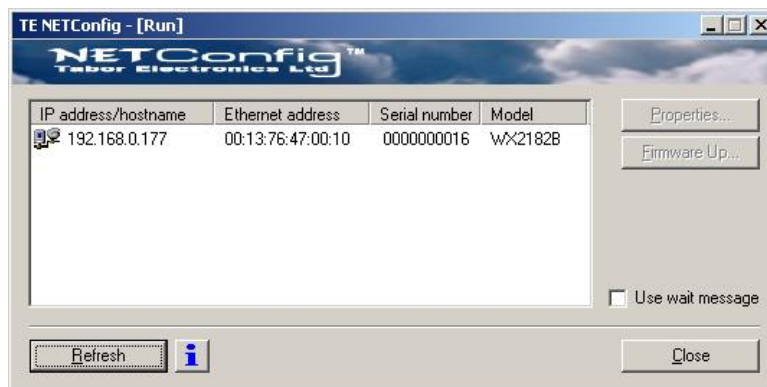

Figure 6-6, WX2182C has been Detected on the LAN Network
5. As soon as the progress bar reaches the far right-hand side of the bar, click on the Refresh button. If your device was connected and booted correctly, the device address will appear in the device list, as shown in Figure 6-6.